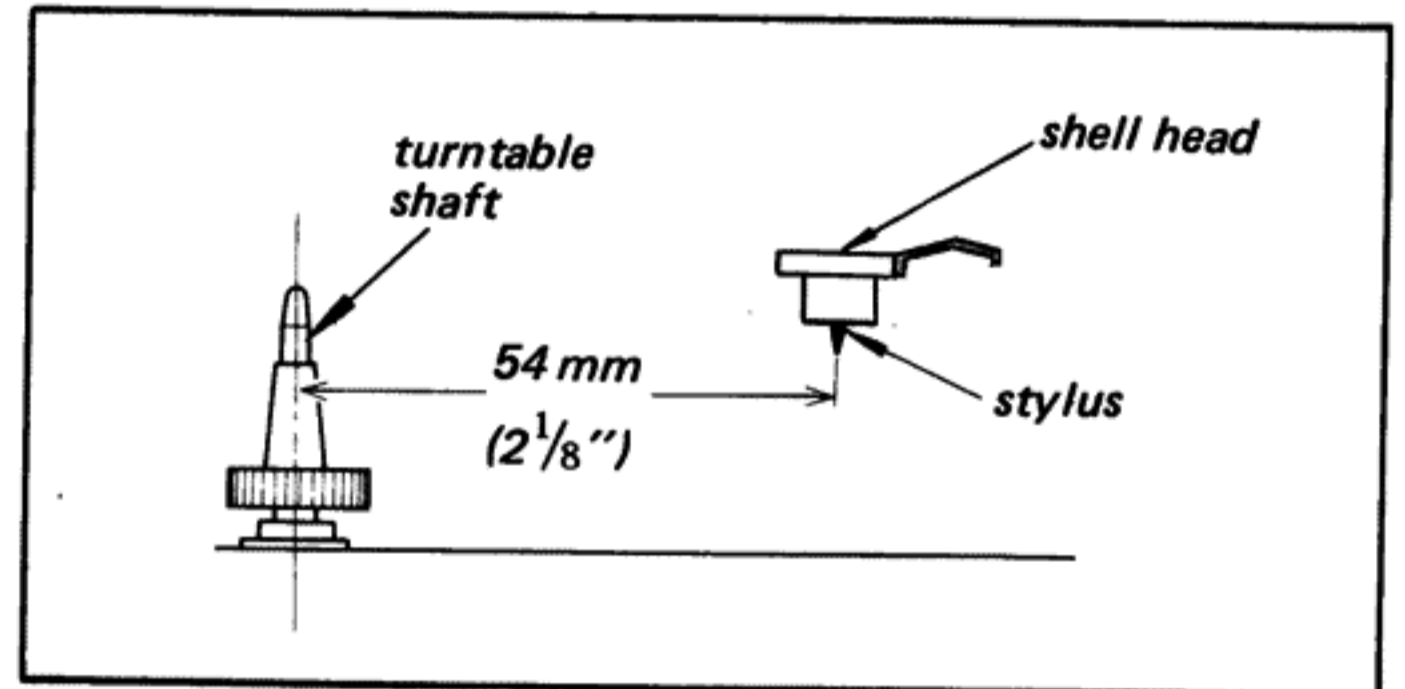

Fig. 3-10. Distance between turntable shaft and stylus
1. The stylus tip should be 54 mm ($2\frac{1}{8}$ ") away from the turntable shaft as shown in Fig. 3-10.